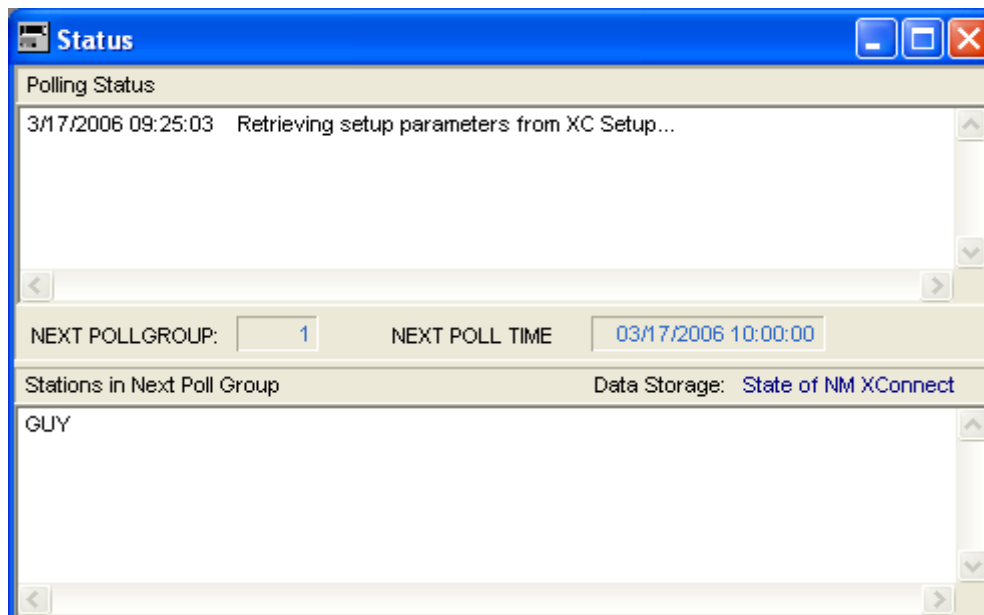

Figure 3. XC Rtu Status window
- Figure 3. XC Rtu Status window4